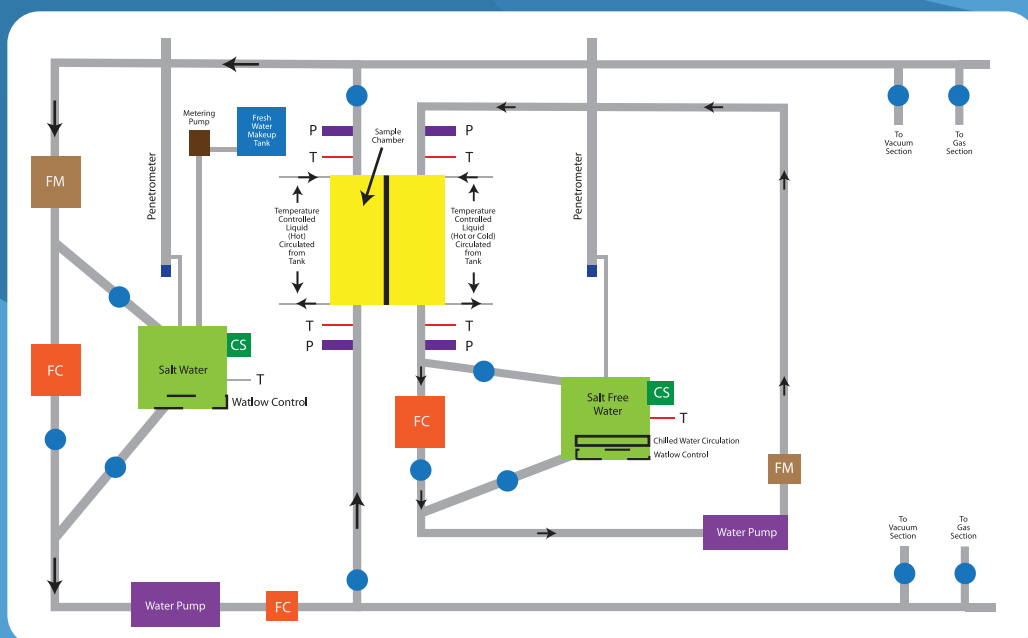

Figure 1. Membrane Distillation with direct contact with fresh water
**Direct Water Contact Membrane Distillation :** The layout is shown in Figure 1. Salt water maintained at a constant temperature is circulated through the sample chamber. Its flow rate and pressures are also maintained at desired values. Temperature of the feed side of the sample chamber is also maintained at the constant temperature. Temperatures and pressures of incoming and outgoing salt water, and conductivity and volume change of salt water are measured. From these measurements rate of water vapor transfer are computed. Salt free water maintained at a constant temperature in a tank is circulated through the sample chamber at the desired pressure and flow rate. Temperature of the fresh water side of the sample chamber is also controlled. Temperature and pressure of incoming and outgoing salt free water from the sample chamber are measured. The conductivity and volume change of water in the salt free water tank are measured. The rate of fresh water formation is computed.